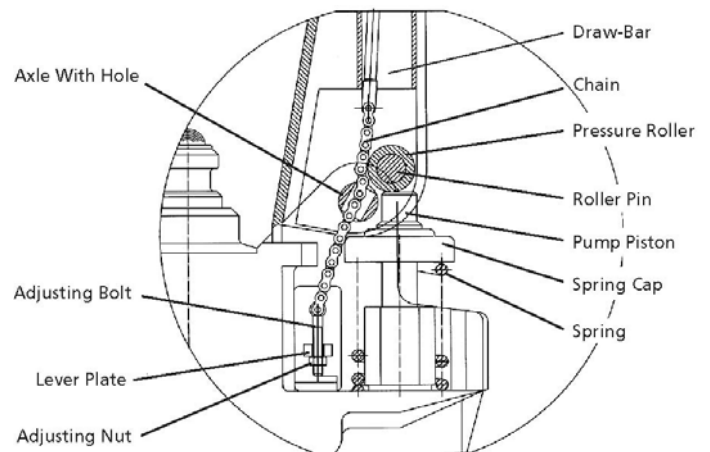

Fig. 7: Side view
- b) Set the control lever of the handle to the 'LOWER' position, then pass the adjusting nut, adjusting bolt through the hole of the axle with your hand (Fig. 7).